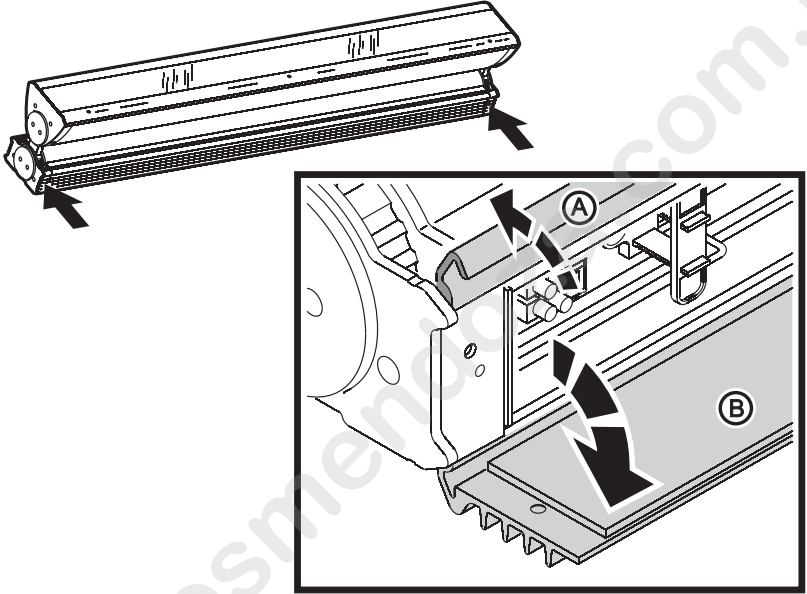

Figure 3: Opening the connections compartment cover
1. See Figure 3. Remove the two screws from the ends of the connections compartment cover.